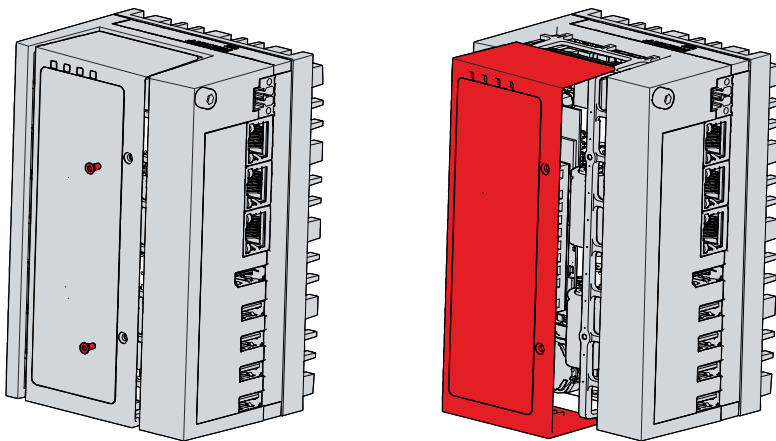

Fig. 26: Access to battery and storage media
You now have access to the battery (1) and storage medium (2) (see fig. 26).